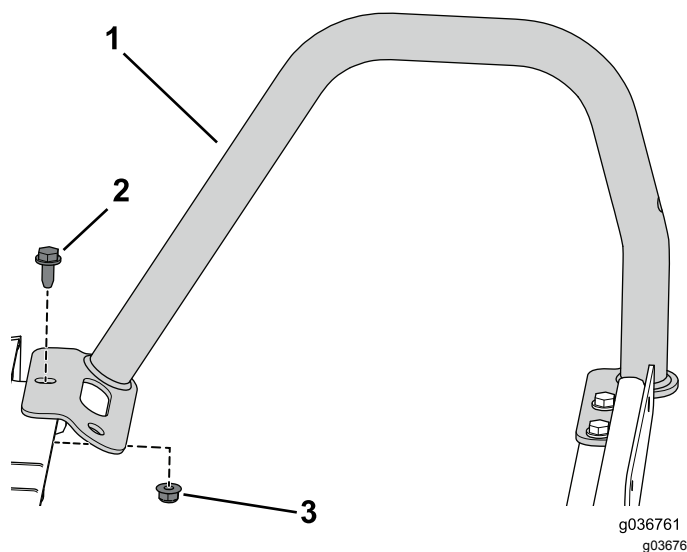

Figure 2
1. Remove the 3 flange bolts (5/16 x 3/4 inch) and 3 flange nuts (5/16 inch) from the right handhold, and remove the right handhold (Figure 2).